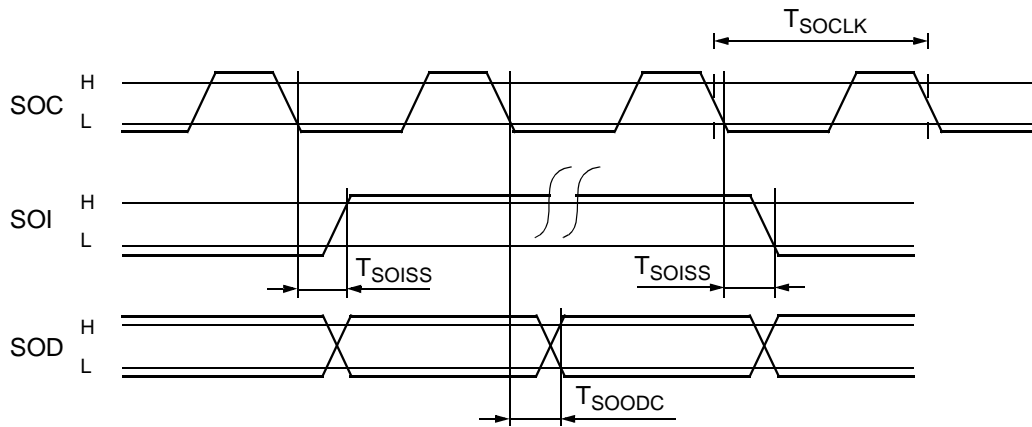

**Fig. 4–20:** Serial input of I2S signal
**Fig. 4–19:** Continuous data stream at serial input A or B. In this mode, the word strobe SI(B)I is not used and the data are read at the falling edge of the clock (bit 2 in D0:7f1 is set).